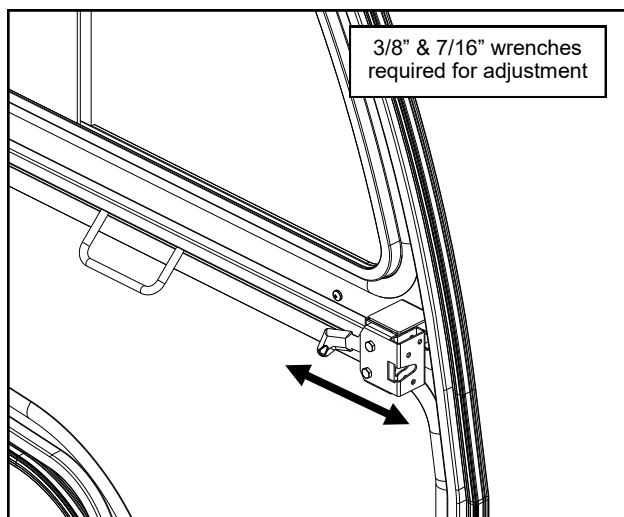

Fig. 19.3b (Door Latch Adjustment)
- Adjust the latch located inside the door horizontally - See Fig. 19.3b